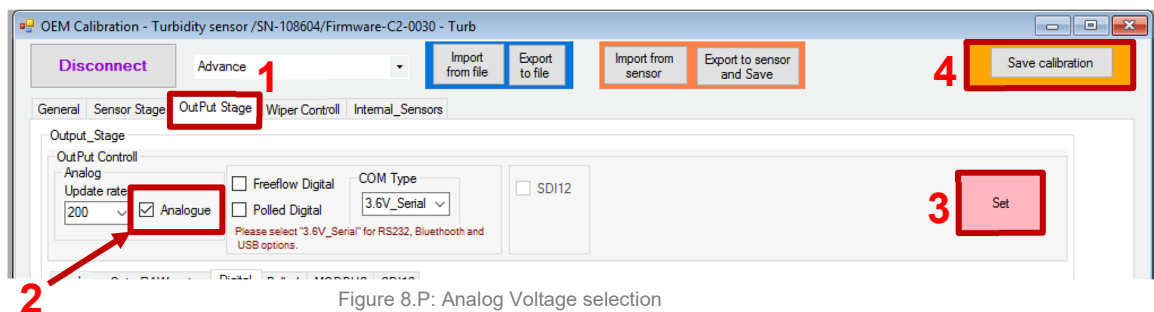

Figure 8.P: Analog Voltage selection
- Select “OutPut Stage” option (Figure 8.P: Analog Voltage selection#1).